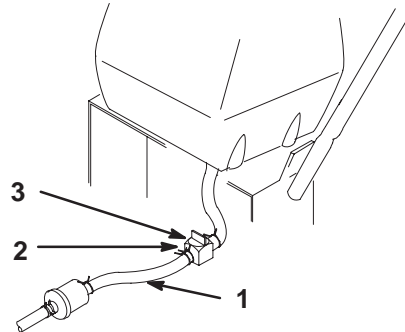

Figure 39
2. Close fuel shut-off valve (Fig. 39).
3. Squeeze the ends of the hose clamp together and slide it away from valve (Fig. 39).
4. Pull the fuel line off the valve (Fig. 39). Open fuel shut-off valve and allow gasoline to drain into a gas can or drain pan.